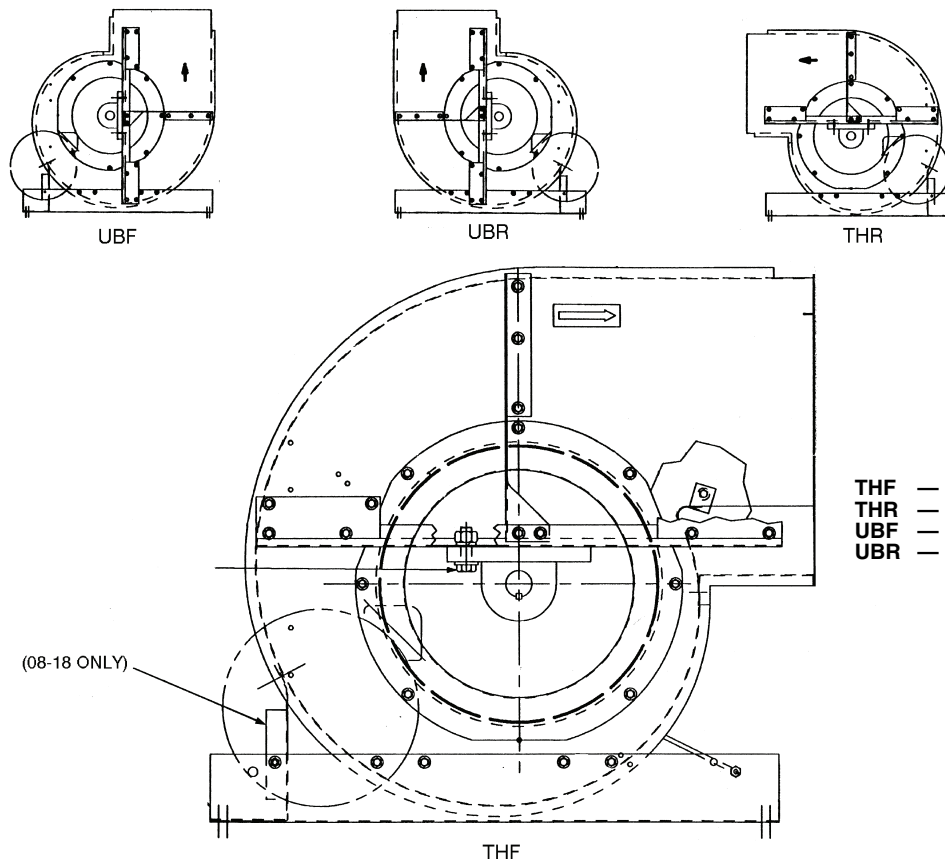

Fig. 33 — Fan Discharge Positions, Fans without IGVs
1. Sizes 03-18 without inlet guide vanes (IGVs) — See Fig. 33. It is not necessary to remove the bearing support channels from the fan housing.